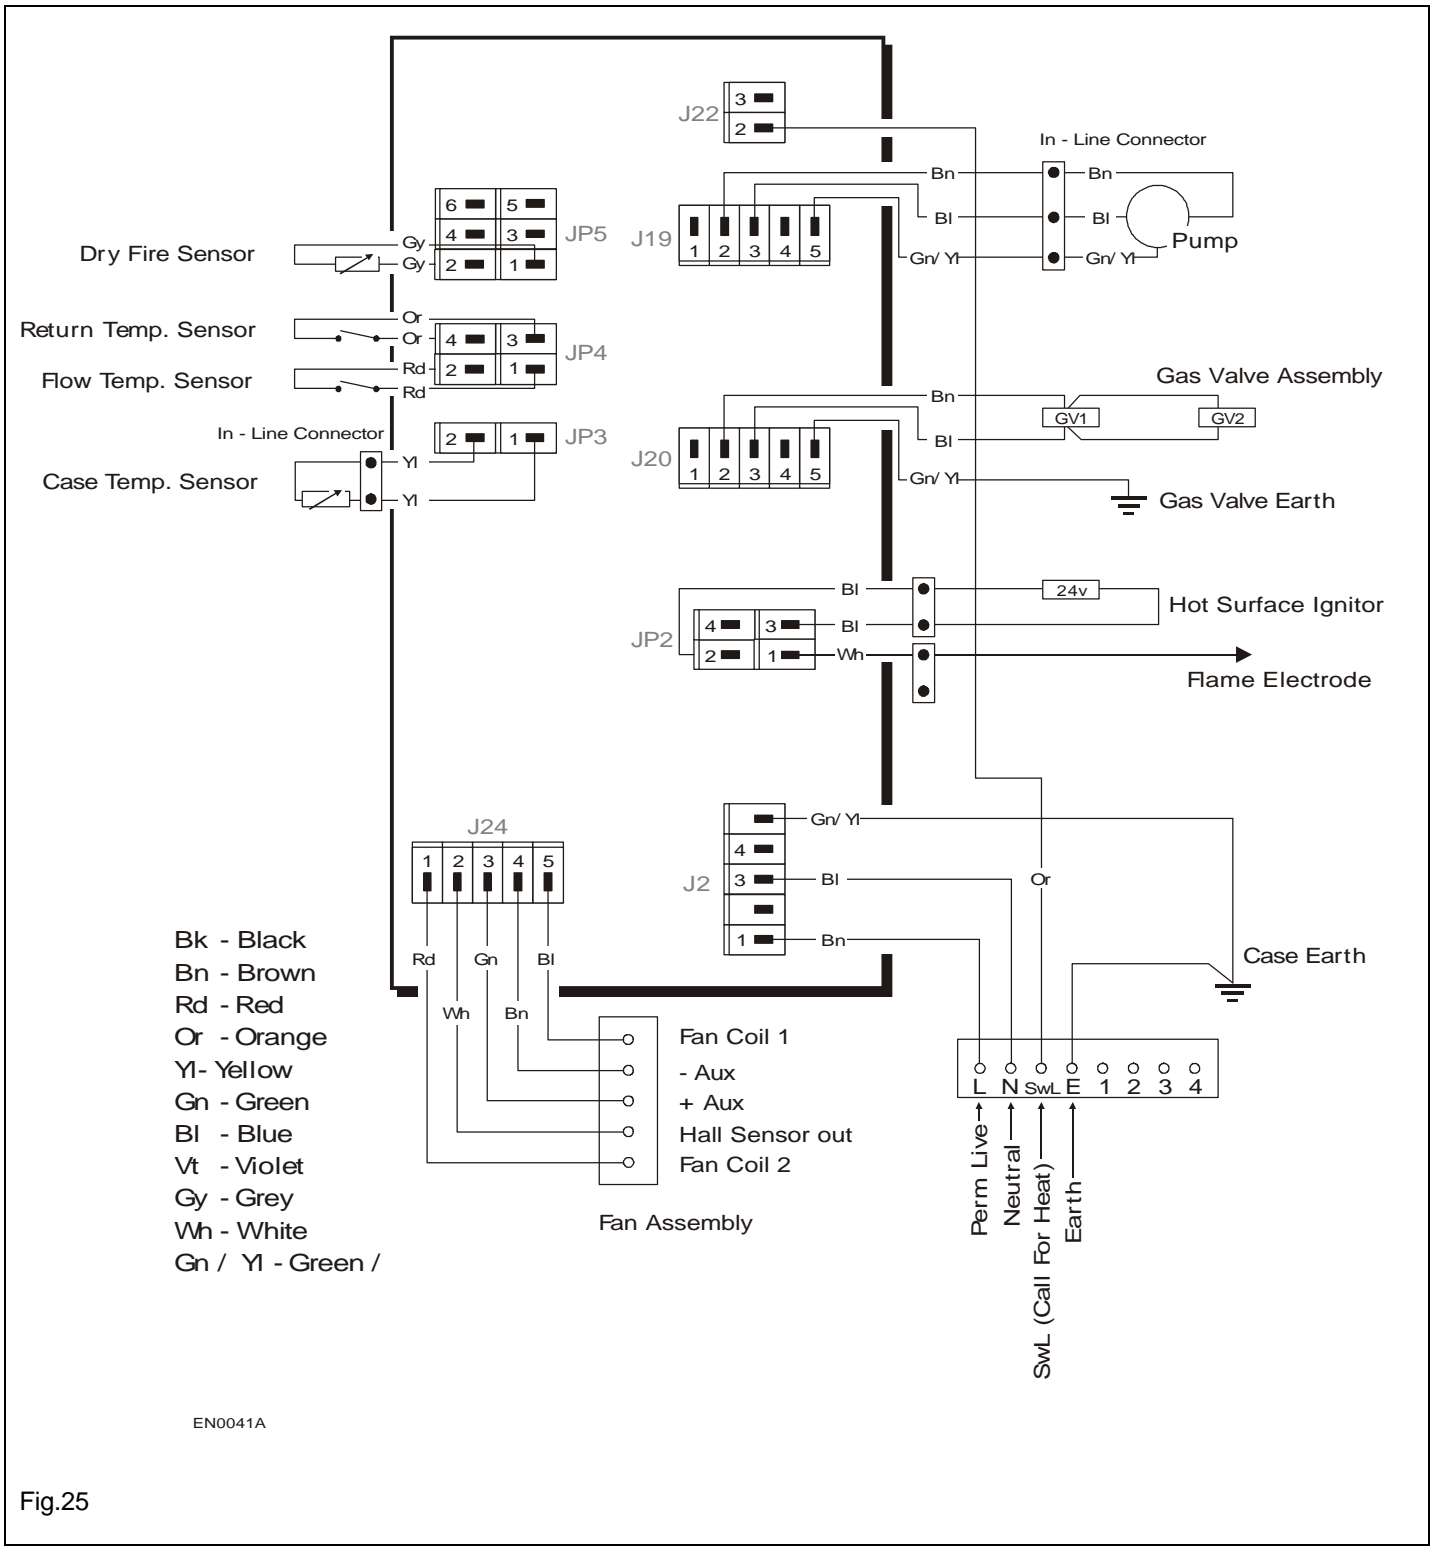

Fig.25
4. If a CO₂ analyser is available check that the flue gas CO₂ concentration is in line with the value given in the FIG.25.